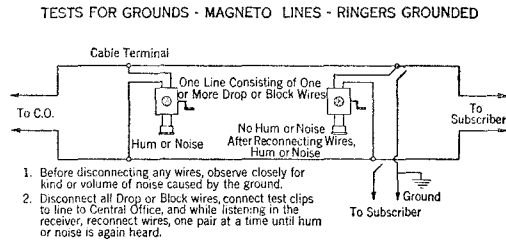

Fig. 7
**2.14** In areas where selective ringing is employed and the station ringers are connected to ground the listening test must be applied in the following manner: (See Figure 7.)